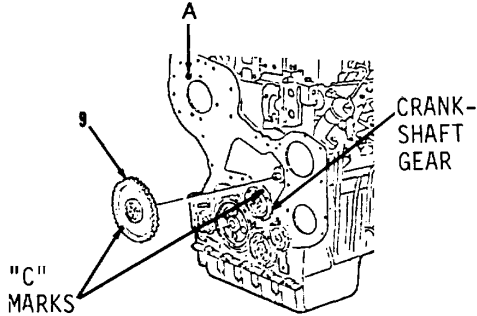

Figure 3-27.
- 5. Position gear (9) on camshaft so that "C" marks on gear (9, Figure 3-27) and crankshaft gear are aligned.